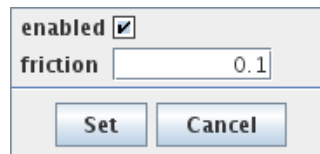

Figure 78: Dialog for setting collision behavior between bodies.
- If a user selects a particular set of rigid and/or deformable bodies, a specific collision behavior may be established among those bodies by choosing “Set collisions ...” from the context menu. That will open the dialog shown in Figure 78, allowing the enabled and friction properties for this behavior to be set.